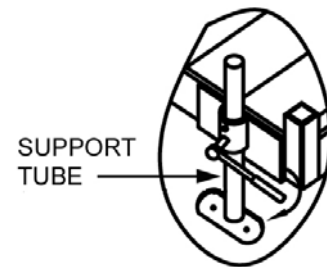

FIG. 12
- a. Adjust each leg one at a time by loosening the bolt in the platform saddle bracket. Using a level, adjust the platform height and retighten (FIG. 12).